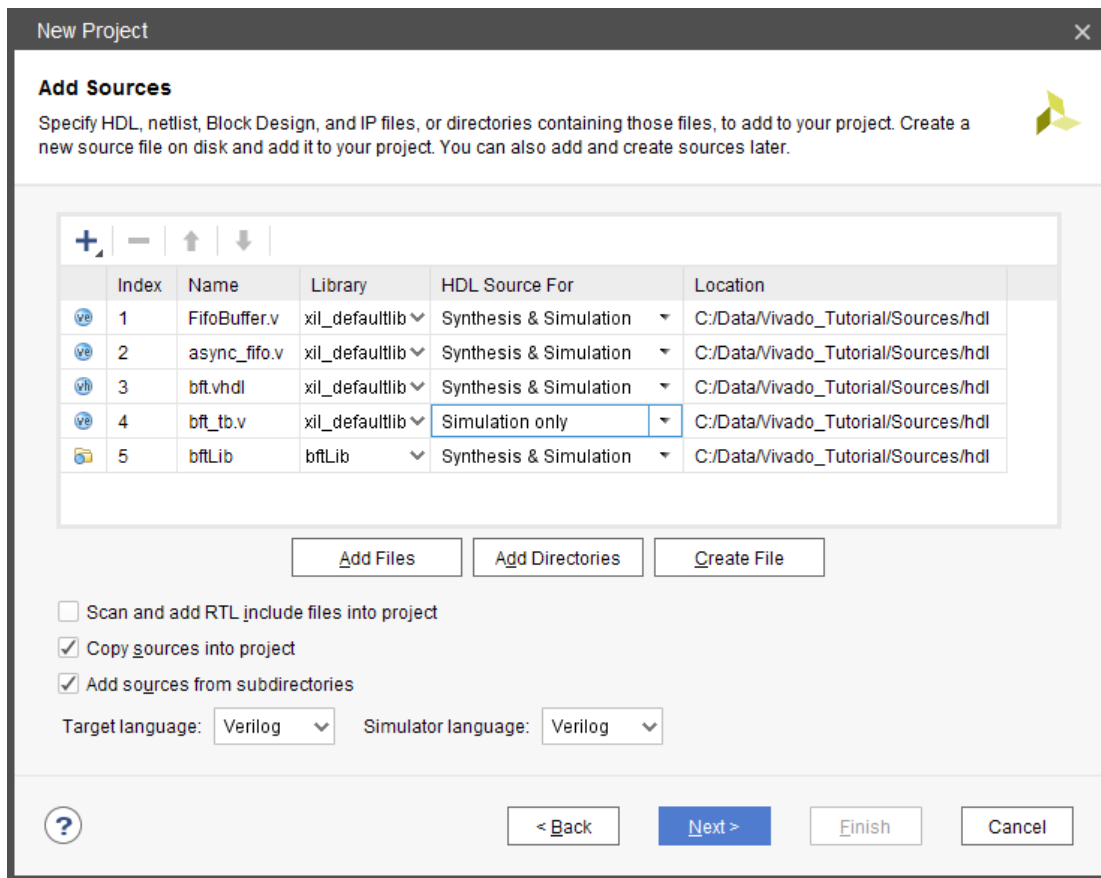

Figure 11: Add RTL Sources
8. Click in the **HDL Sources For** column for the `bft_tb.v` file and change Synthesis and Simulation to **Simulation only**, as shown in Figure 11.